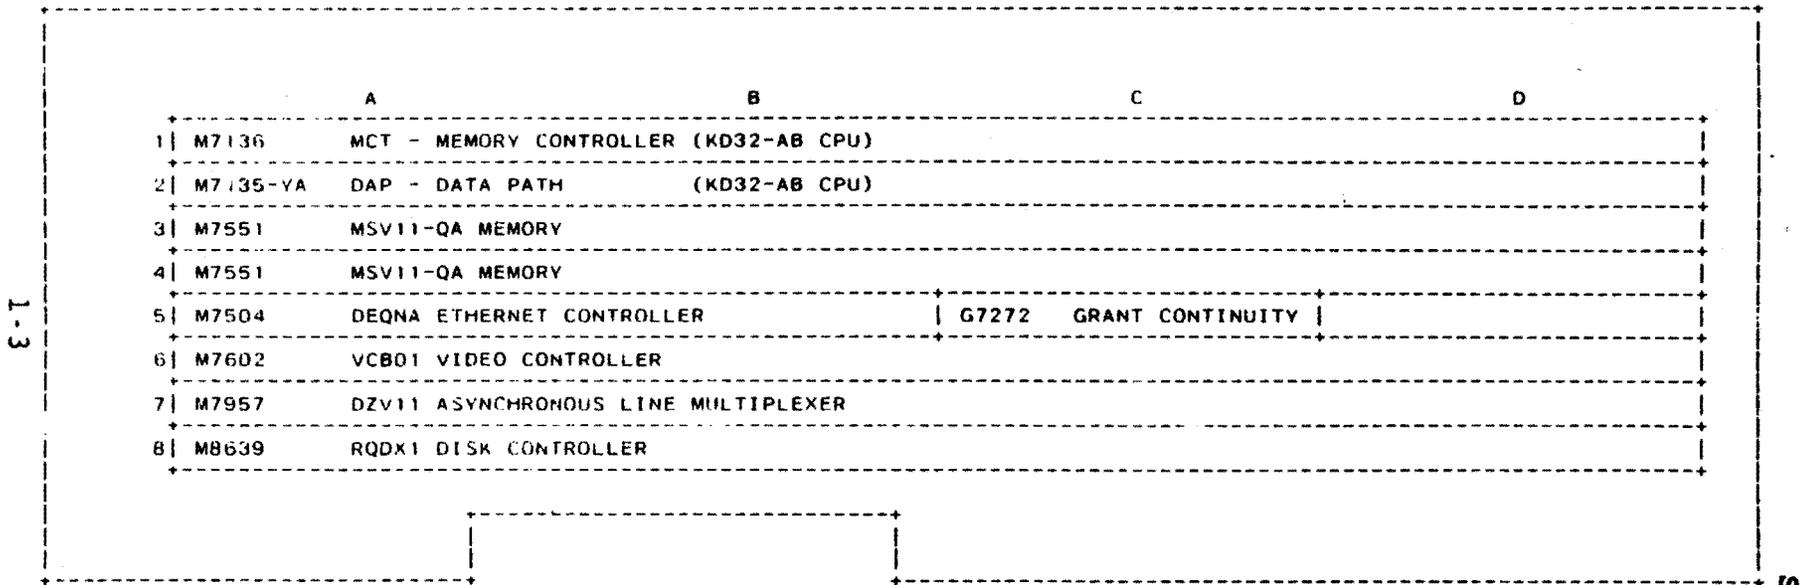
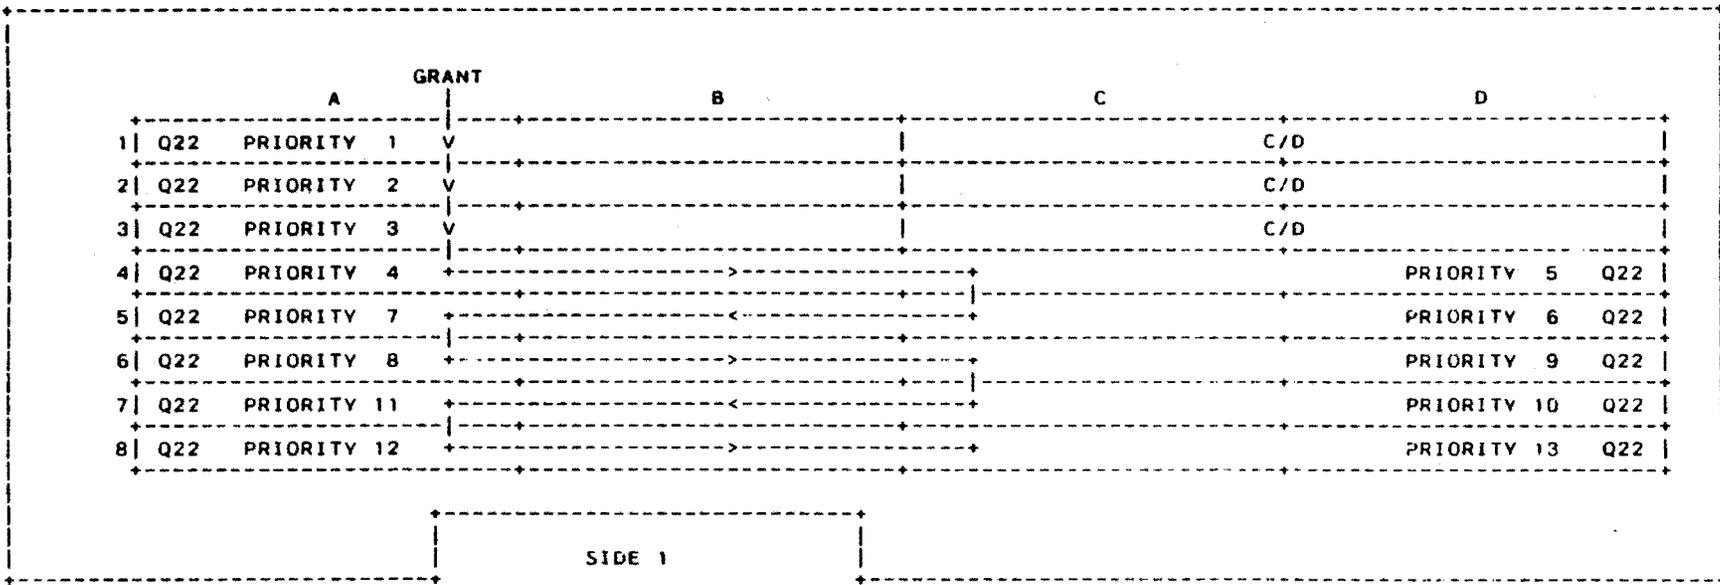

Figure 1-1: Backplane Configuration Example
Figure 1-2: H9278-A Backplane
Figure 1-1 shows an example backplane installation for a system configured with all the option modules listed in Table 1-1. Figure 1-2 shows grant continuity chaining and interrupt acknowledge priority. With regard to the backplane, the following should be observed:
- o The DEQNA is a dual-height module and requires a G7272 Grant Continuity card in the A or C position of the same slot. As Figure 1-1 shows, the DEQNA occupies the A/B position and the G7272 occupies the C position. (Figure 1-2, below, shows the Grant path).